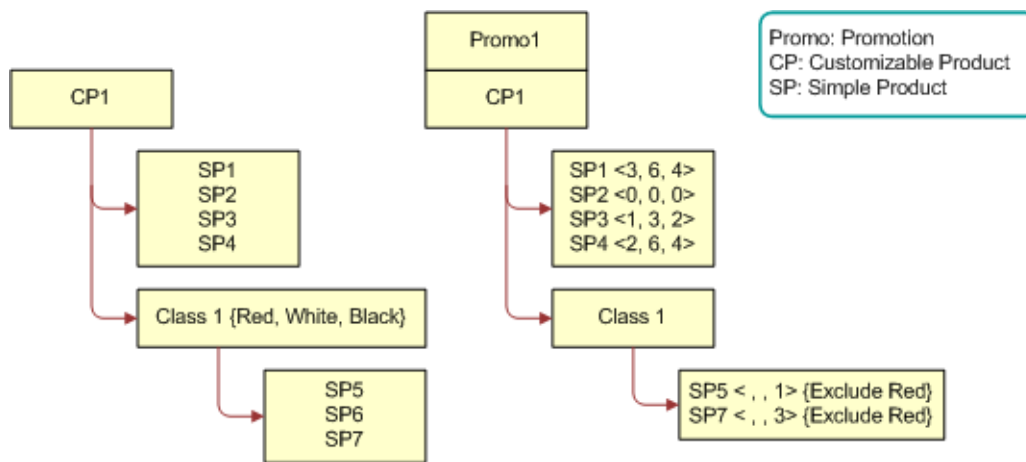

Figure 6. Product Structure for CP1 and Promo 1
- 1 A customizable product called CP1 is defined and a promotion called Promo1 is defined as shown in Figure 6.
Figure 6 shows a product called CP1 with the following structure: CP1 has four simple product relationships defined (SP1, SP2, SP3, SP4) and a Product Class called Class 1. A further three simple product relationships (SP5, SP6, SP7) are defined and associated with Class 1. Class 1 is associated with an attribute that has the values {Red, White, Black}.
Figure 6 shows a promotion called Promo1, where CP1 has the following structure: CP1 has four simple product relationships defined (SP1, SP2, SP3, SP4) and a Product Class called Class 1. A further two simple product relationships (SP5, SP7) are defined and associated with Class 1. For SP1, Min is set to 3, Max is set to 6, and Default is set to 4. For SP2, Min is set to 0, Max is set to 0, and Default is set to 0. For SP3, Min is set to 1, Max is set to 3, and Default is set to 2. For SP4, Min is set to 2, Max is set to 6, and Default is set to 4. For SP5, Default is set to 1, and the attribute value Red is excluded for this relationship. For SP7, Default is set to 3, and the attribute value Red is excluded for this relationship.
- 1 Create the product structure for CP1 and Promo1 as shown in Figure 6.